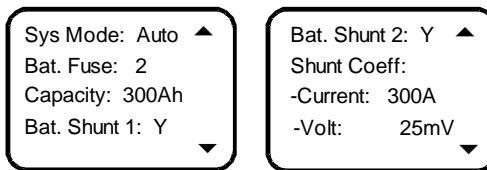

Figure 4-24 Basic battery parameter setting screen
1. At the BAT Settings screen, press ▲ or ▼ to select the 'Basic Setting' menu, then press the ENT key to enter the basic battery parameter setting screen, as shown in Figure 4-24.